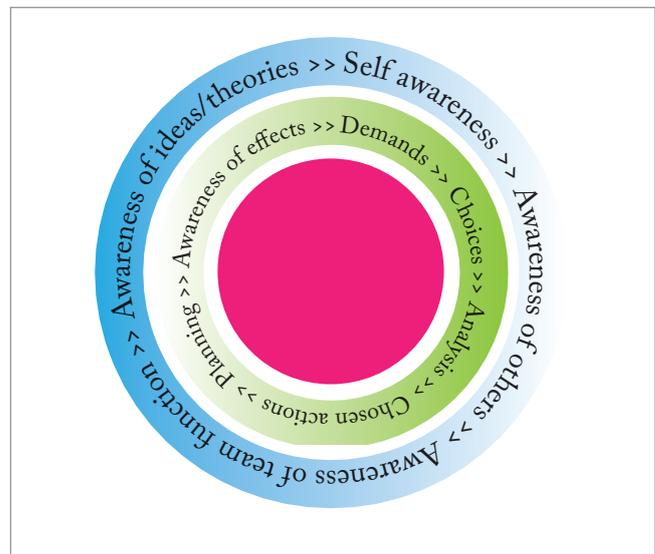

Fig 1. The circular nature of mindfulness.
Zinn (6) describes mindfulness as ‘having to do with being in touch’. A person’s ability to improve his or her own mind, simply by attending to the mind as a functioning object in its own right, can be something of an eye-opener! This mental improvement is not just a felt sense, it also correlates to real neurological changes. Bringing active attention to the mind, that is, meditation, is the main way people develop mindfulness (see Figure 1). Direct observation of our physical experiences, feelings, and thoughts, fosters direct insight into the nature of our sense of self, releasing vitality, and supporting a stronger sense of our place in the world – and in the analytical laboratory.
Fig 1. Structure of most popular phases (left). By incorporating the phenyl group in the chain, the phase becomes more thermally stable. However, the selectivity is also changed.
Over the last decade, we've made big breakthroughs in stabilizing stationary phases using silphenylene groups. We found that it was possible to reduce the breakdown reaction of diphenyl siloxanes by building the phenyl group in the main chain (see Figure 1) (1). Such phases show lower bleed, but also show different selectivity – something that is not always made clear by vendors – which can lead to strange examples of peak elution shifts; that's why some vendors supply traditional 5% diphenyl siloxane alongside the stabilized silphenylene phase.